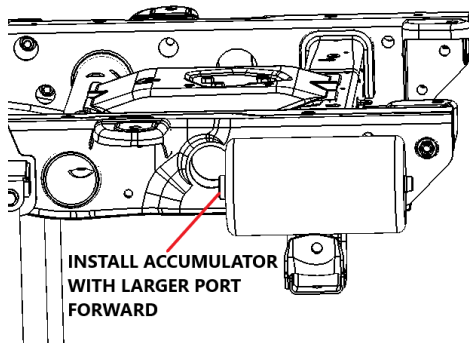

Figure 26
- 15:** Locate the accumulator tanks P/N 10006420 (DS) and P/N 10006421 (PS). These tanks fasten into the factory rear leaf spring shackle mounts with the factory bolts. Make sure that the large port for the  $\frac{3}{4}$ " air fitting is pointing forward. Torque the factory leaf spring bolt to 135 ft./lbs. once the tank is secured within the mount, run the  $\frac{3}{4}$ " air line from the large fitting in the air tank to the fitting in the air bag. Torque the nut on the bottom of the bag to 35 ft./lbs. See figure 26.